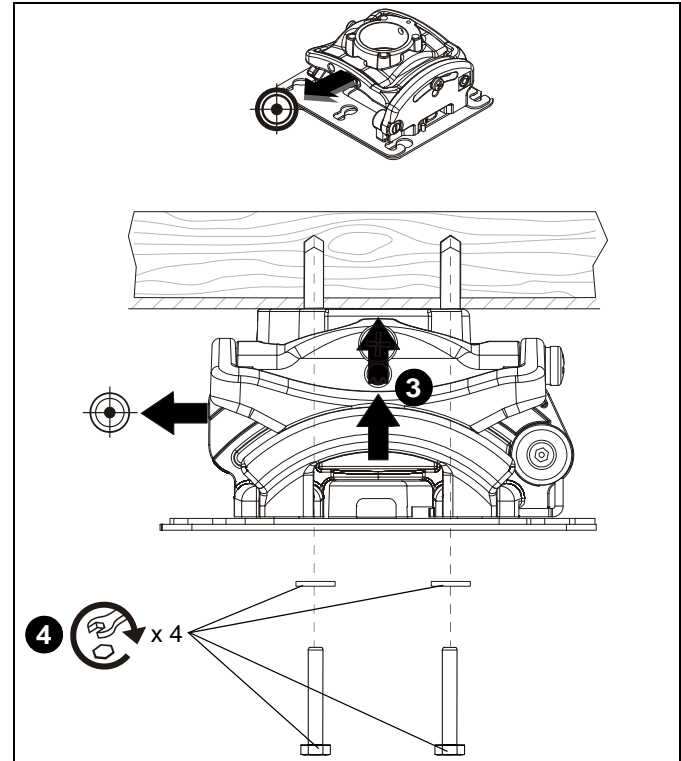

Figure 4
4. Secure RPMX to structure using four #10-24 x 3" Grade 2 wood screws (not included) and four 1/4" Grade 2 flat washers (not included). (See Figure 4)